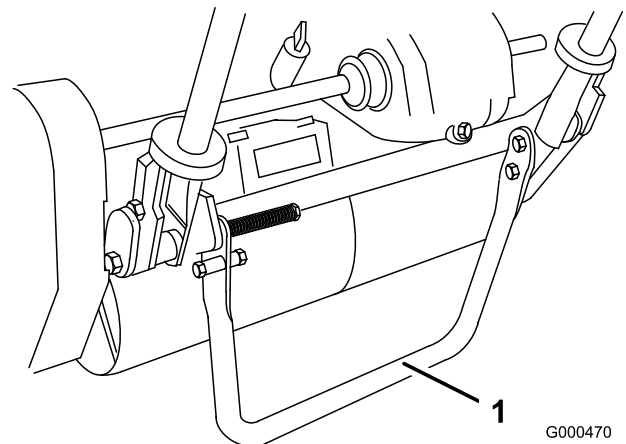

Figure 18
1. Push kick stand down with foot and pull up on handle support until kick stand has rotated forward, over center (Figure 18).